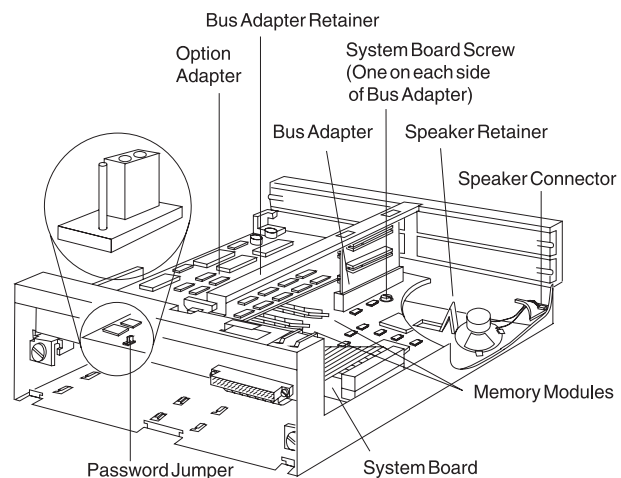

Figure 1-13. System Unit Components
- 7 Move the system board forward until the slots in the edge of the board align with the tabs in the frame. Then lift the board out of the tray. See Figure 1-13.